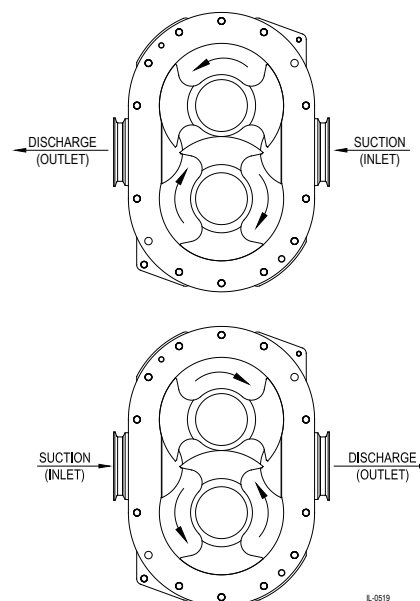

Figure 9
4. Check for proper pump and drive rotation (Figure 9). Make sure that the pump is flooded with product when checking the rotation. Running the pump dry even momentarily can cause seal damage.